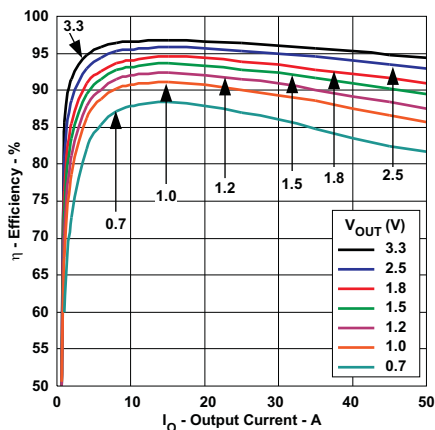
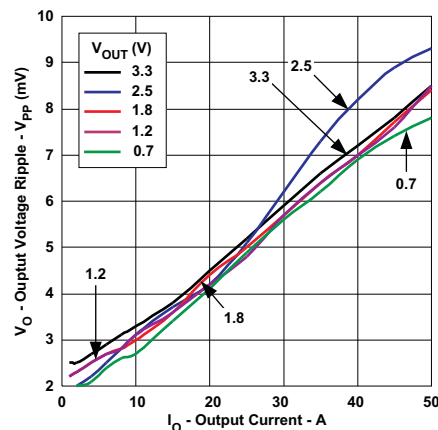
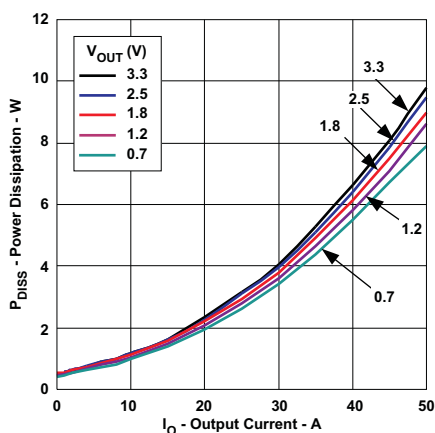

Figure 6. Efficiency versus Output Current
Figure 7. Output Ripple versus Output Current
Figure 8. Power Dissipation versus Output Current
- (13) The electrical characteristic data has been developed from actual products tested at 25°C. This data is considered typical for the converter. Applies to Figure 6, Figure 7, and Figure 8.